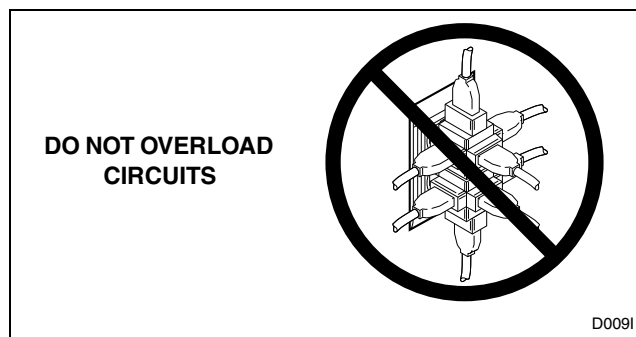

Figure 23
- DO NOT OPERATE OTHER APPLIANCES ON THE SAME CIRCUIT WHEN THIS APPLIANCE IS OPERATING. DO NOT OVERLOAD CIRCUITS! Refer to *Figure 23*.